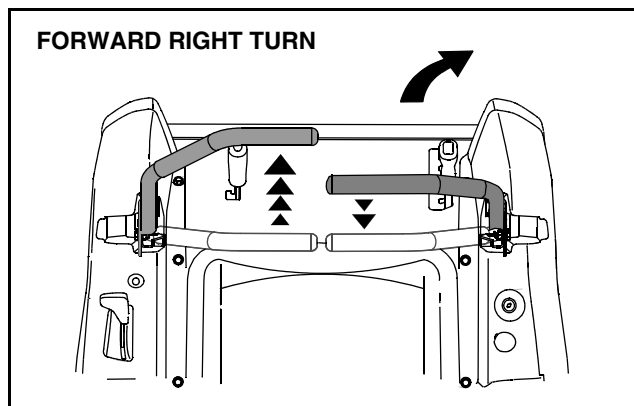

Figure 12
- To turn to the right, move the right drive control lever rearward of the left lever. See Figure 12.